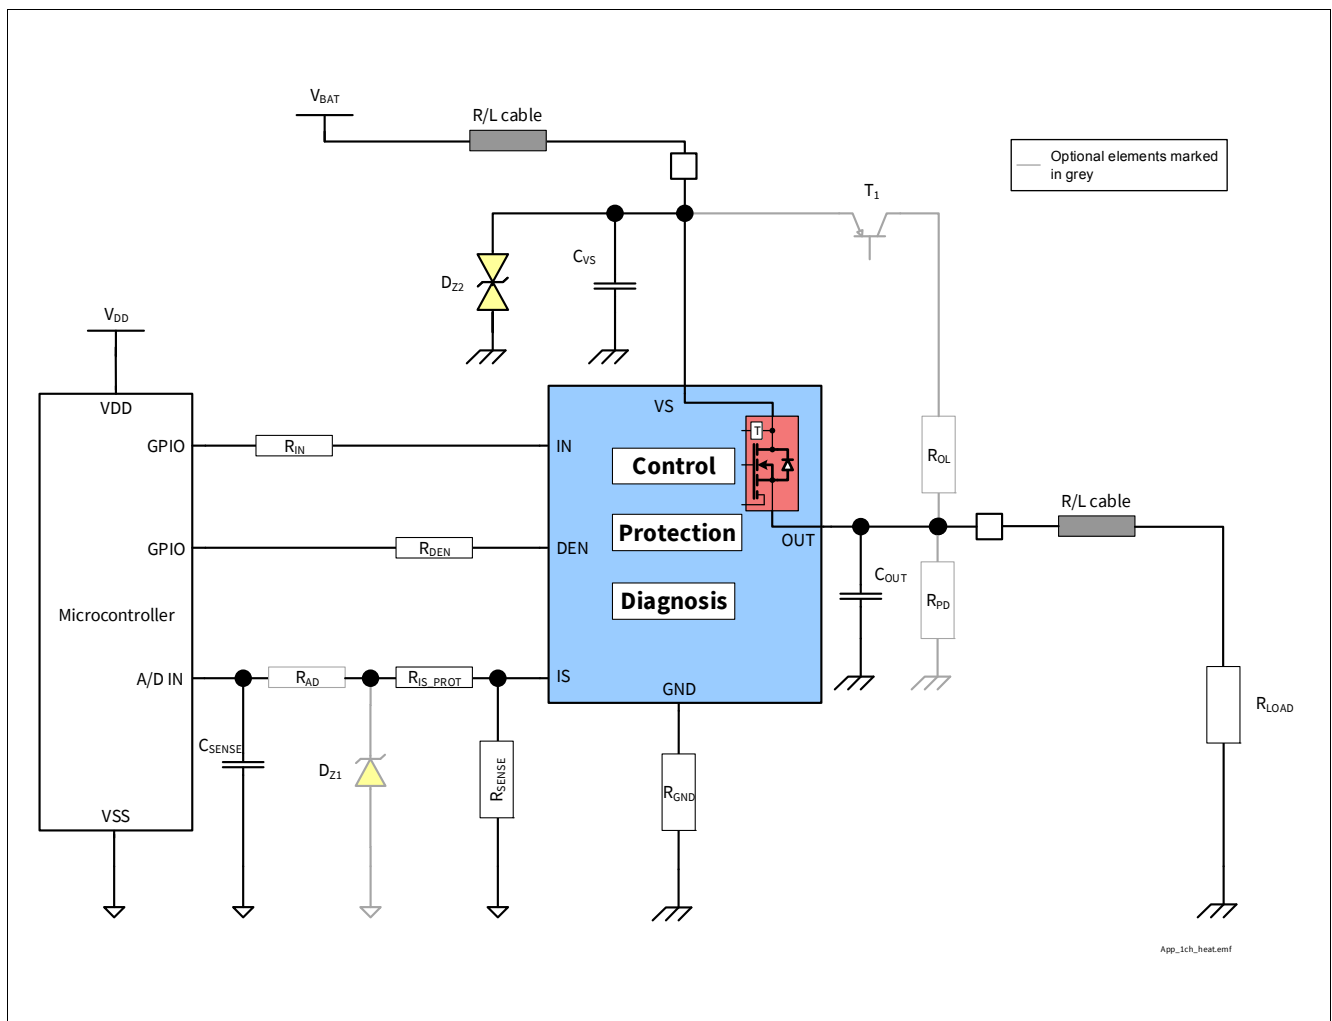

Figure 37 BTS7008-1EPP Application Diagram
1.01, 2018-06-14	Page numbering corrected Figure 29 updated Figure 1 updated Figure 37 updated